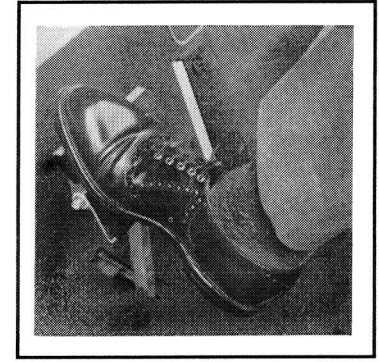

Figure 6
**Parking Brake Pedal** - The parking or park brake pedal is the small raised portion in the upper left corner of the brake pedal with the work "PARK" molded in. The words "Park Brake" are marked above this pedal. To set the park brake, push the brake pedal firmly and tilt the park brake portion of the pedal forward with your right foot (See Figure 6).